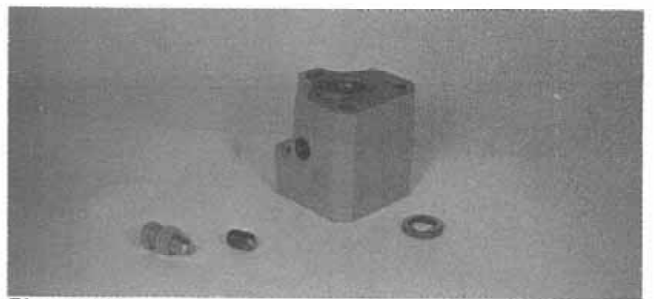

Figure 16:
14. To totally disassemble the detent block, remove the jam nut/capscrew, plunger/ball assembly and shift rod oil seal (Fig. 16).